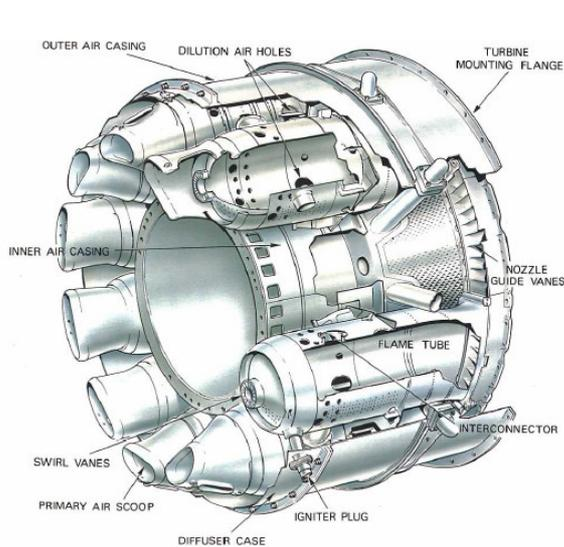

Fig.2
b) **combustion chamber tube-annular:** it consists of several flame tubes that are fitted in a single casing. The air flow is similar to the tubular chambers. This configuration joins the advantage of maintenance easiness of the tubular chambers with the compactness of annular chambers (fig. 2).